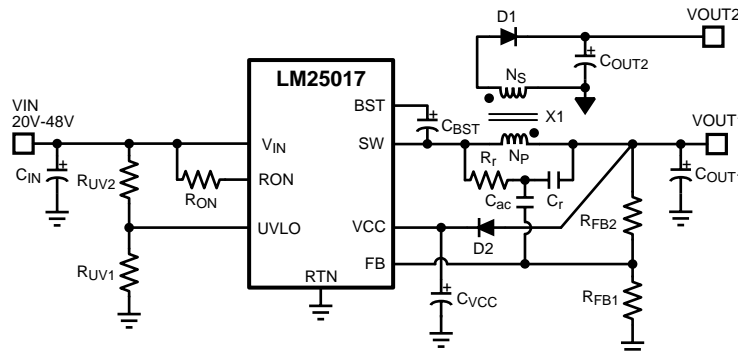

Figure 17. Typical Isolated Application Schematic
An isolated supply using LM25017 is shown in Figure 17 below. Inductor (L) in a typical buck circuit is replaced with a coupled inductor (X1). A diode (D1) is used to rectify the voltage on a secondary output. The nominal voltage at the secondary output (V_{OUT2}) is given by: